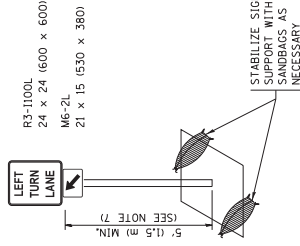

**FIGURE 2**
B) WHEN "L" IS  $>$  THE STORAGE LENGTH OF THE TURN LANE OR THE TURN LANE IS WITHIN THE LANE CLOSURE, USE FIGURE 2.
2. CONES MAY BE SUBSTITUTED FOR BARRICADES OR DRUMS AT HALF THE SPACING DURING DAY OPERATIONS. CONES SHALL BE A MINIMUM OF 28 (700) IN HEIGHT.
4. REFLECTIVE TEMPORARY PAVEMENT MARKINGS SHALL BE PLACED THROUGHOUT THE BARRICADED AREAS OF EACH TURN BAY AS SHOWN WHERE THE CLOSURE TIME IS GREATER THAN FOURTEEN (14) DAYS.
5. THIS APPLICATION ALSO APPLIES WHEN WORK IS BEING PERFORMED IN THE RIGHT LANE(S) AND THE RIGHT TURN BAY IS TO REMAIN OPEN. UNDER THIS CONDITION, "RIGHT TURN LANE," R3-I00R 24 x 24 (600 x 600) AND M6-ZR 21 x 15 (530 x 380) SHALL BE USED.